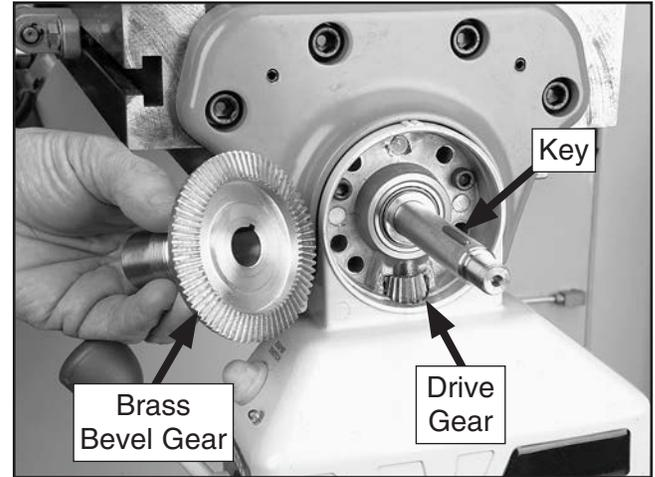

Figure 67. Power feed gears and key.
4. Remove brass bevel gear from leadscrew, then remove leadscrew alignment key (see **Figure 67**).